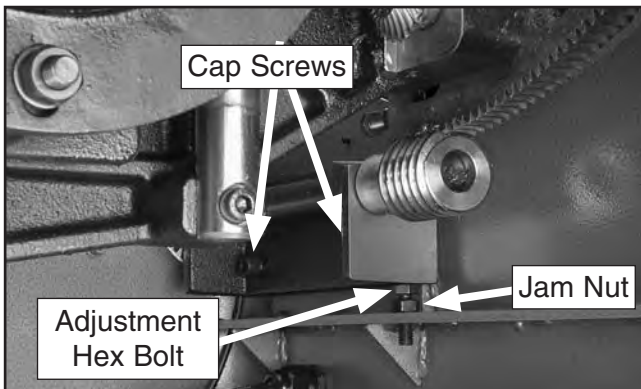

Figure 138. Table tilt handwheel adjustment.
4. Loosen the two cap screws and loosen the jam nut shown in **Figure 138**.